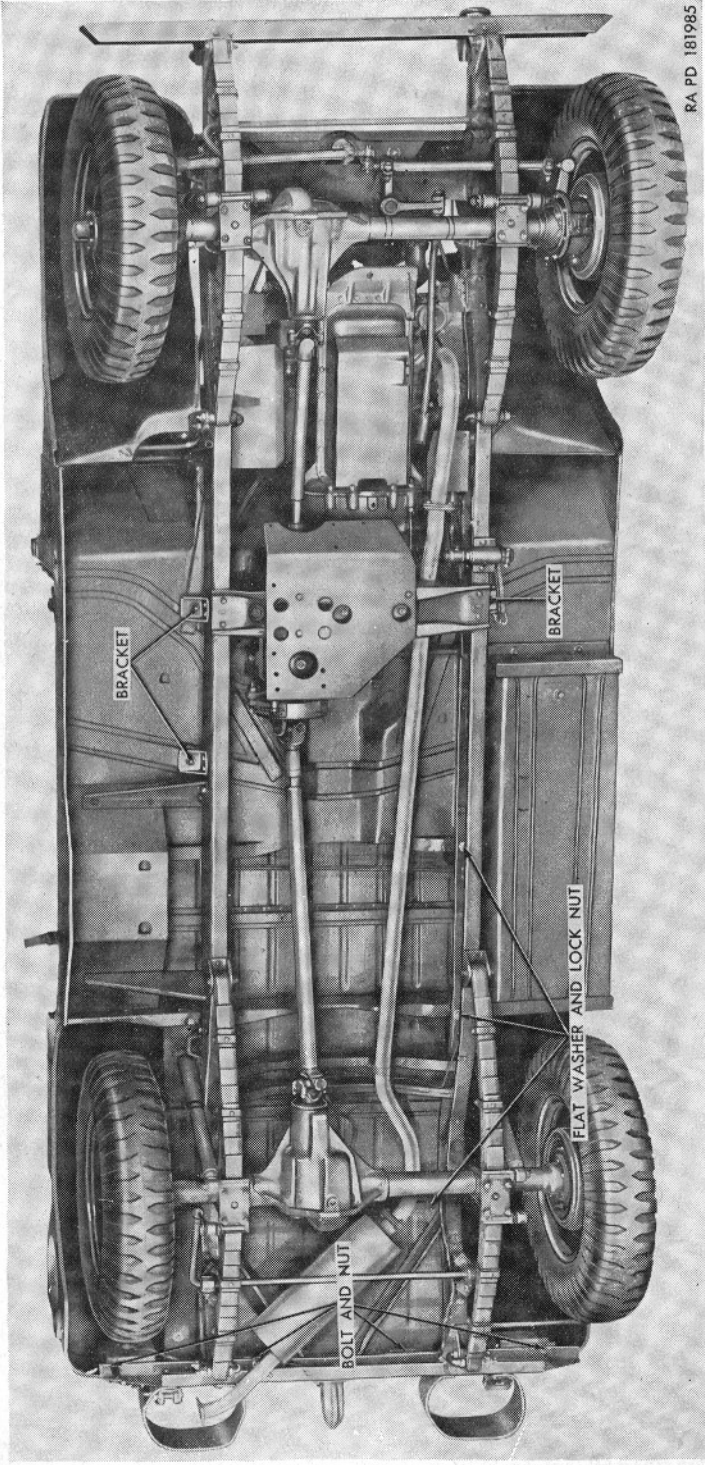

Figure 26.1. (Added) Under side of body—showing hold-down brackets and disconnect points M170.
d. *Disconnect Body from Frame M170.* Refer to figure 26.1 for general location of body hold-down brackets and other disconnect points at bottom of body.